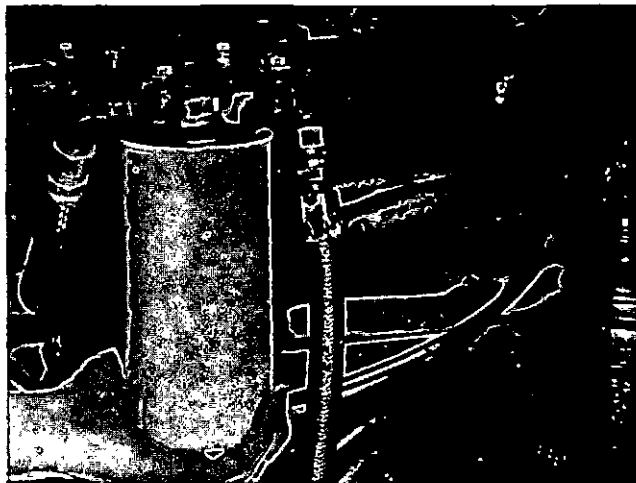

Fig. 5-8, V11909. Removing throw-away type fuel filter
1. Unscrew combination case(s) and element(s) (1, Fig. 5-8); discard.